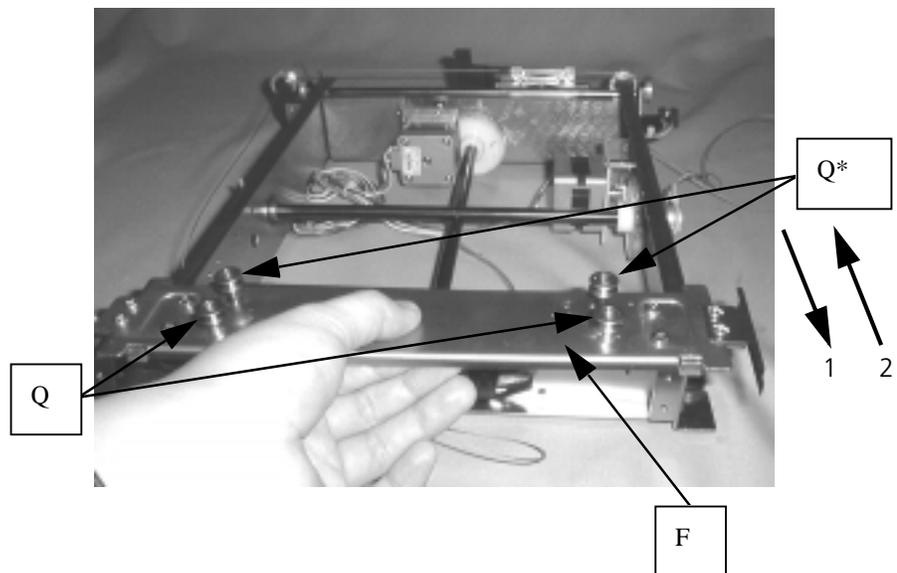

FIGURE 14-5
9. Draw out Y-carriage (F) in the arrow 1 direction as shown in Fig.14-5.
10. Set new Y-carriage (F) to carriage (R).
11. Loosen nut (U) slightly, and adjust the Y-carriage by turning the eccentric pin (S), to which V-bearing (Q) is mounted, so that the Y-carriage functions smoothly without any play to guide rails (T).
12. Tighten nut (U), and make sure that the Y-carriage (F) functions without any play.
13. Remove carriage (R) from Y-carriage (F), and insert it in the arrow 2 direction with V-bearing (Q*) facing this side as shown in Fig.14-5.